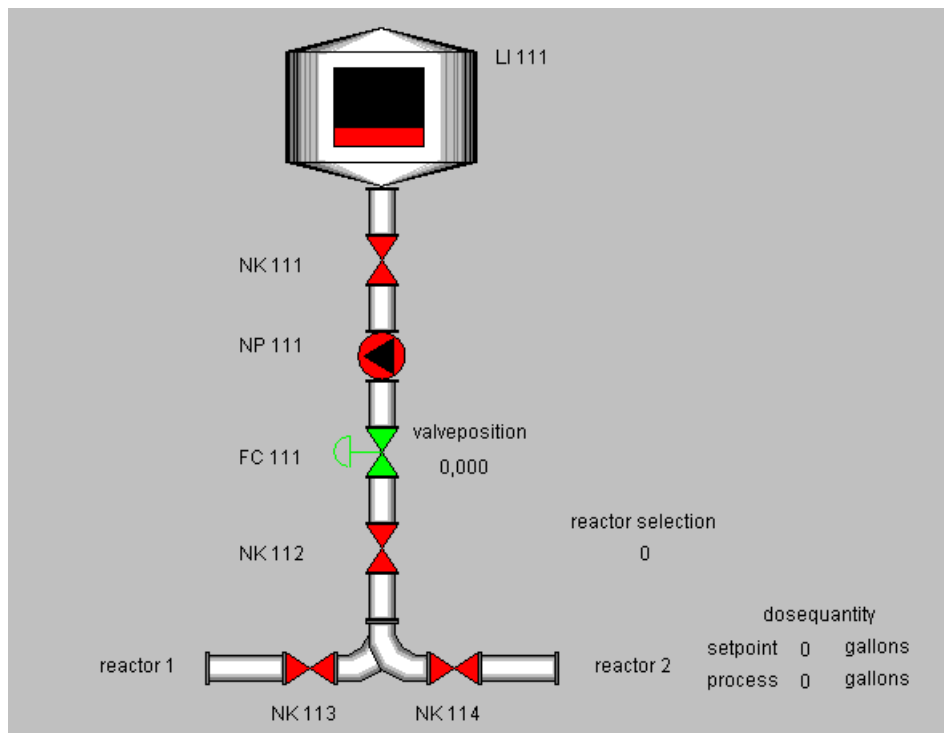

Figure 11-4 Process Picture of Unit 1 ("COLOR\_PH" Project)
2. To input the required dosing volume (setpoint) and to check the actual volume dosed (actual value), you require two further I/O fields that should be located using the procedure described above beside the pipe to Reactor 2 (see Figure 11-4). Connect the setpoint with the tag **Plant1/RMT1/DOSE\_PARA/PARA\_DOS\_RM1\_VOL.U** and the actual value with **Plant1/RMT1/FC111/DOSE.PV\_OUT**. The default for the I/O fields is 3 places. According to the settings, however, you dose 5000 liters (4 figures). Change the properties of the two I/O fields accordingly.
Create all the other objects required using the static picture elements and text fields and arrange the objects as shown in Figure 11-4.